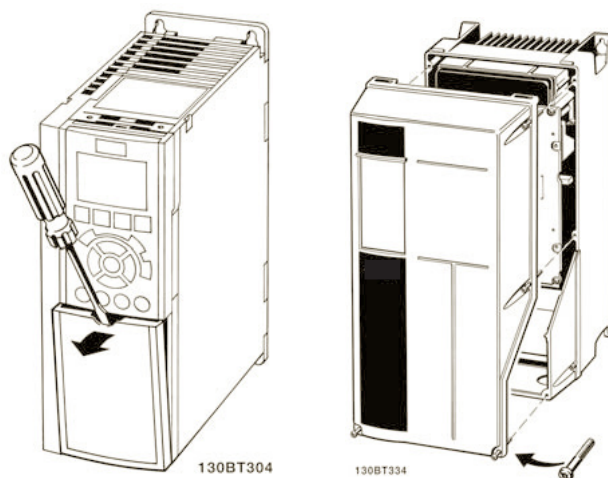

Figure 3-8. Control Terminals Access
- For units 5 hp or less (208 V) and 10 hp or less (480 V), remove access cover plate with screw driver. (See Figure 3-8.)
- For larger size units, remove front cover of unit to access internally mounted control terminals. (See Figure 3-8.)